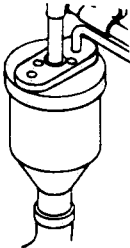

FIGURE 5-2 – Drain Connection
- 4. Verify that drain funnel is connected to building waste-line outlet (stubbing). See Figure 5-2.